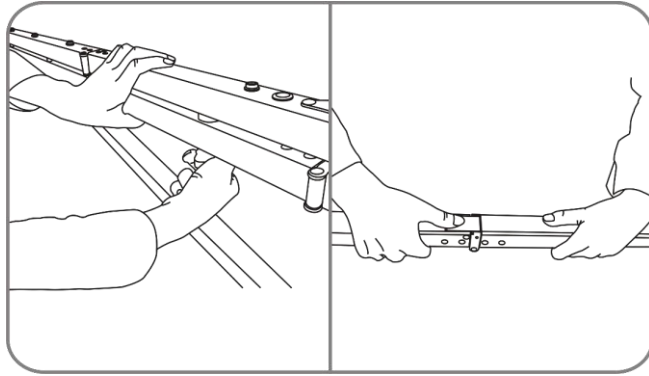

Fig. 18
- 04) Remove the locknuts on both legs and take off the legs (Fig. 18). Loosen the turning joint locks and fold the legs.